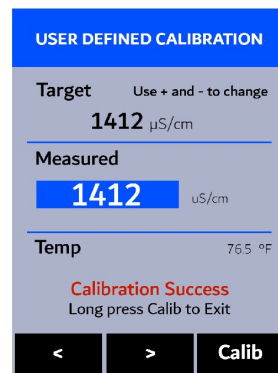

Figure 28.
12. The message “**Calibration Success**” will appear towards the bottom of the display (Figure 28).